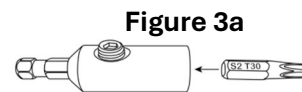
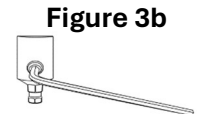

Figure 3a
Figure 3b
3. Install correctly sized star drive bit from installation kit into installation tool (**figure 3a**) and tighten installation tool set screw with the provided hex key wrench (**figure 3b**)